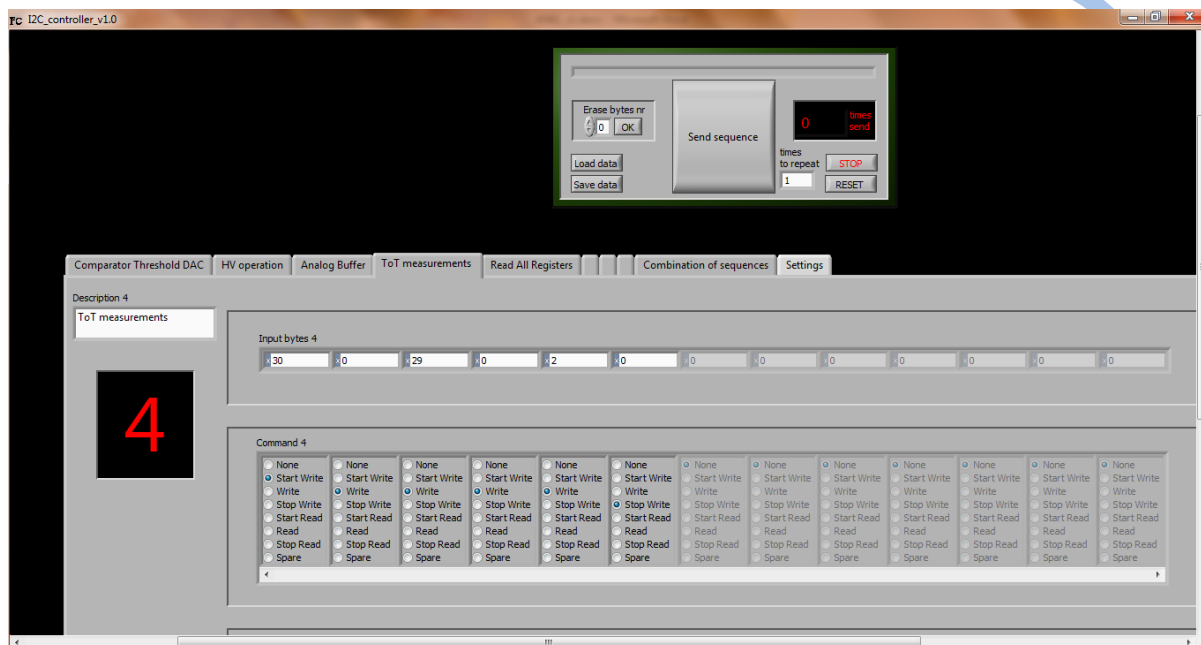

Figure 10 Labview program to measure ToT.
2. Set Comparator Threshold DAC register (Pointer0) to required value using I²C. For example set comparator to 0x2B. (Figure 10)